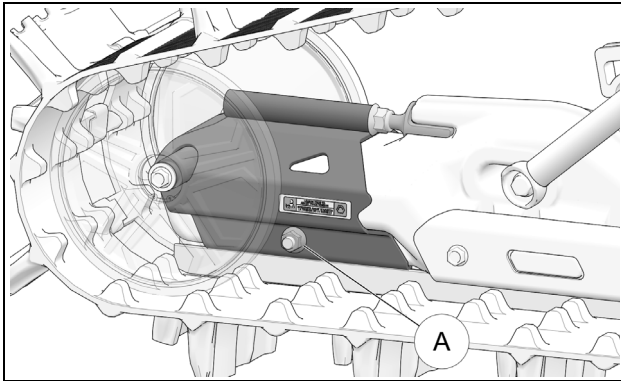

Figure 19
CAUTION: Track Tensioner assembly bolt (A) must be loosened before adjusting track tension. Figure 19.